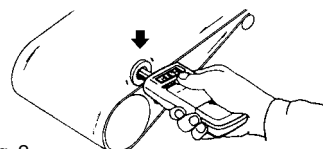

Fig. 2
- While holding the Measure switch down, force the circumference ring against the turning shaft as shown in Fig. 2